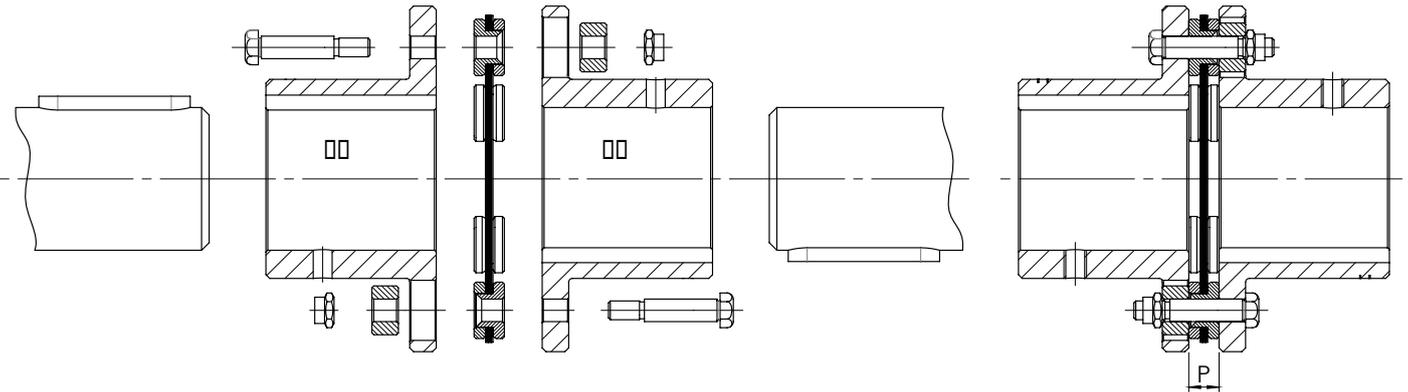

Figure 4-1 - METALDRIVE®: hubs mounting
- Position the two hubs on the motor and driven shaft, with the flange aligned with the end of the shaft (see the FIGURE 4-1)
- Move the motor and the driven machine to get the dimension DBSE (see FIGURE 4-1 and TABLE 4.1)